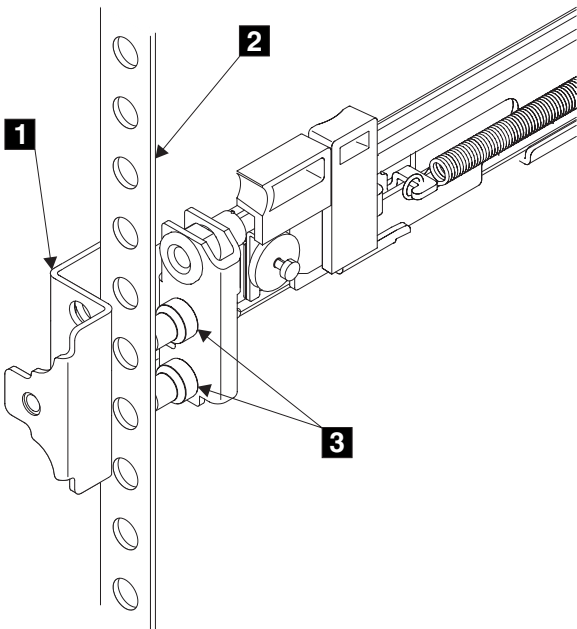

Figure 63. Installing the front end of the rail
6. Place the front end of the left rail in the rack cabinet. Align the top of the front bracket **1** (Figure 63) with the required EIA marking that is on the rack.